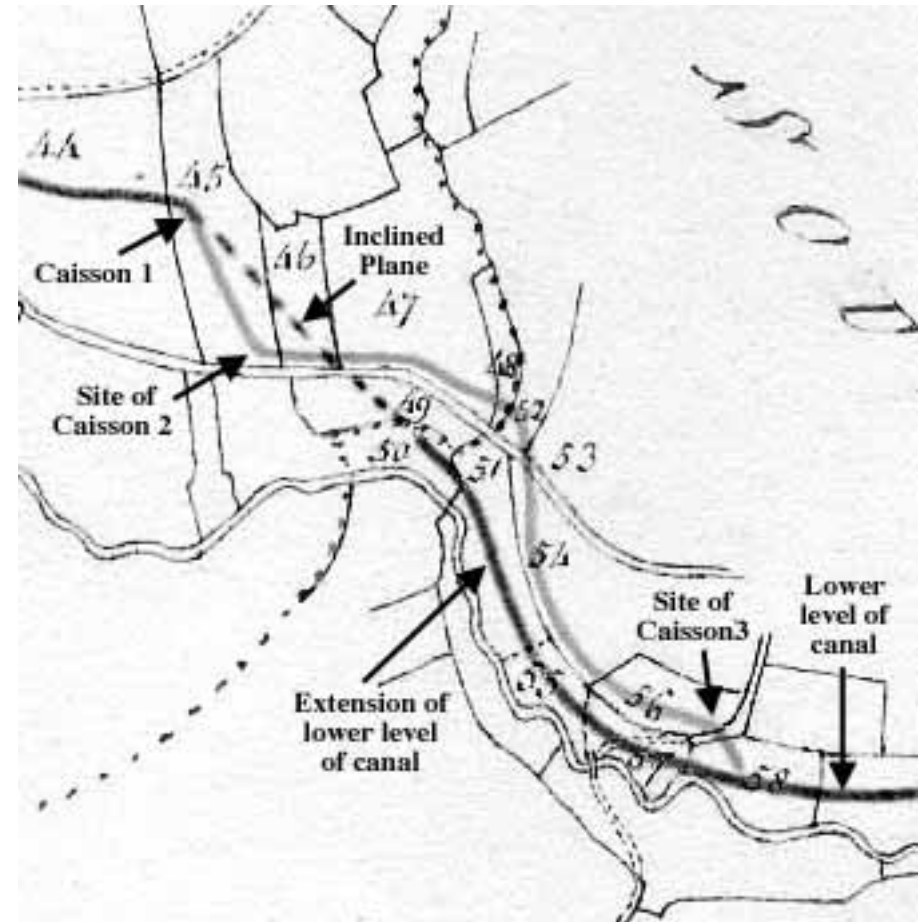

Fig. 3 — WILLIAM SMITH'S DEVIATION PLAN — 1795
*Fig.3* — The two intended routes for joining the Upper and Lower levels of the canal shown on William Smith's 1795 Deviations Plan, starting from Blacklands Furlong (plot 45). The dark pecked line shows the course of the Inclined Plane, joining the extension of the Lower Level between plots 49 and 58 near the three-mile stone. The lighter curved line shows the course of the Caisson Locks, located at A, B and C, also rejoining the canal at plot 58.